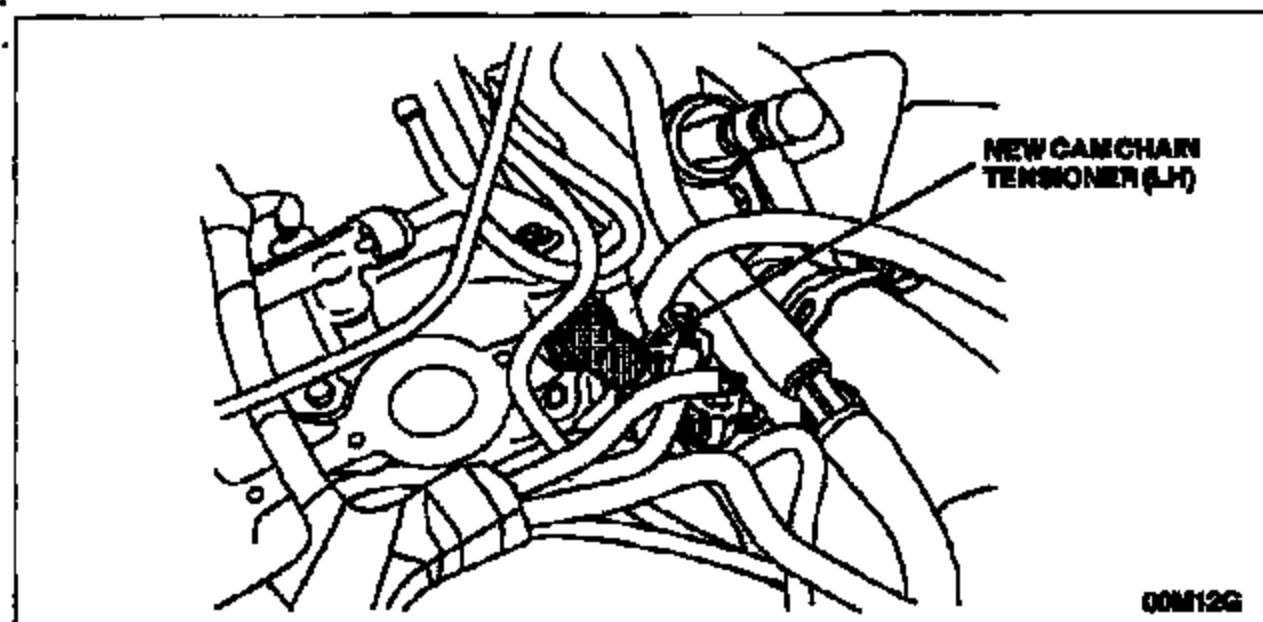

FIGURE 7
8. Install the new cam chain tensioner and washer. Tighten the tensioner to 44 Nm (32 lb-ft). See Figure 7.